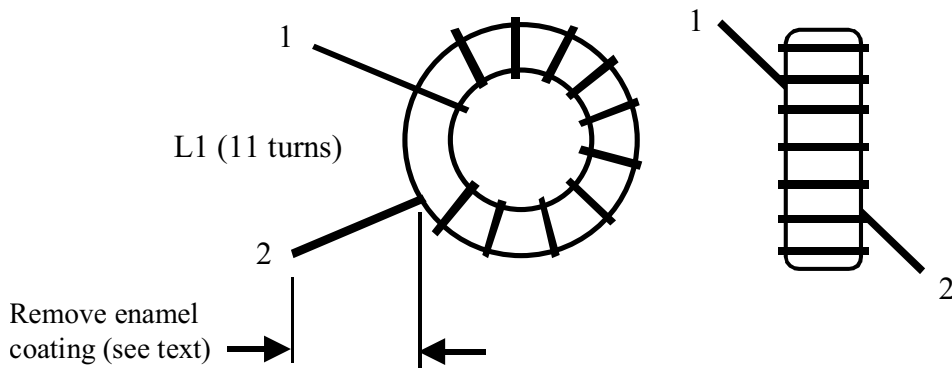

Figure 4
- Locate the component outline for inductor L1 at the right end of the Filter board, near C21. Compare this component outline to Figure 4, which shows two views of L1. In the next few steps you'll wind L1 and prepare its leads, then mount it vertically as shown in the drawing at the right. **Note:** Leads 1 and 2 of L1 are identified for use in winding instructions, but are not printed on the PC board.
- To wind L1, "sew" the long end of the wire through the core 11 times, spacing the turns as shown in the left-hand drawing of Figure 4. *Each pass through the core counts as one turn.* Leave at least 1/2" (12 mm) of extra wire for each lead, and trim off the excess.
- Hold L1 as shown in Figure 4. Verify that lead 1 of L1 terminates on the top side of the core and lead 2 terminates on the bottom. This winding *sense* (or direction) is required to match the pads provided for L1 on the PC board.
- Make sure that the turns of L1 are evenly spaced, and that they occupy about 80% of the core. The winding must look identical to Figure 4, with exactly 11 turns. (Always count toroid turns on the *inside* of the core to make sure you're counting passes *through* the core.)
The goal in preparing toroid leads is to (1) remove **ALL** of the enamel coating on the leads; (2) tin the leads so that a clean solder joint will result. Leads must be tinned up to the edge of core (the core itself is non-conductive). Review Figure 4, which shows the part of the leads to be stripped and tinned.
Wind and install L2 through L6 in the same manner as L1, using red enamel wire and the turns counts listed below. (Remember that each pass *through* the core counts as one turn.) The turns spacing should be adjusted so that the winding occupies about 80% of the core, as shown in Figure 4.